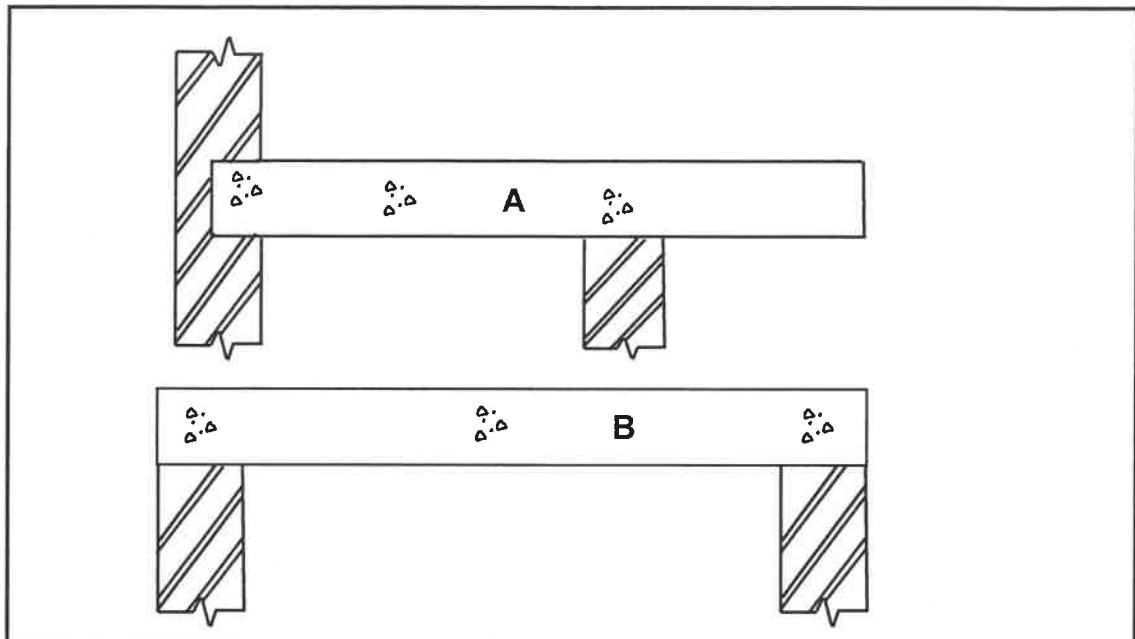

FIGURE 6.2
6.2 FIGURE 6.2 below illustrates two types of beams.